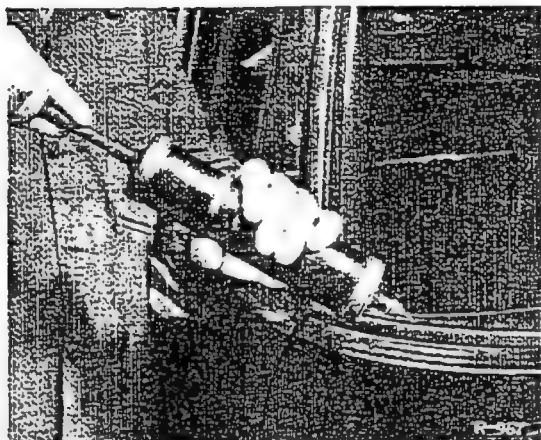

Fig. 67-1/8
The cable or cord must always be pulled out in the direction parallel to the glass in order to avoid damage to the rubber lip (Fig. 67-1/7).
11. Press window sealing cement BO 375/10 between windshield glass and rubber molding to provide a tight seal (Fig. 67-1/8).